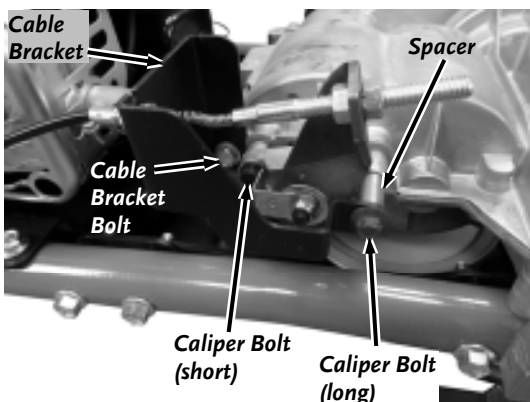

Figure 52
2. Locate the Brake Caliper at the right/front of the machine (Figure 52).